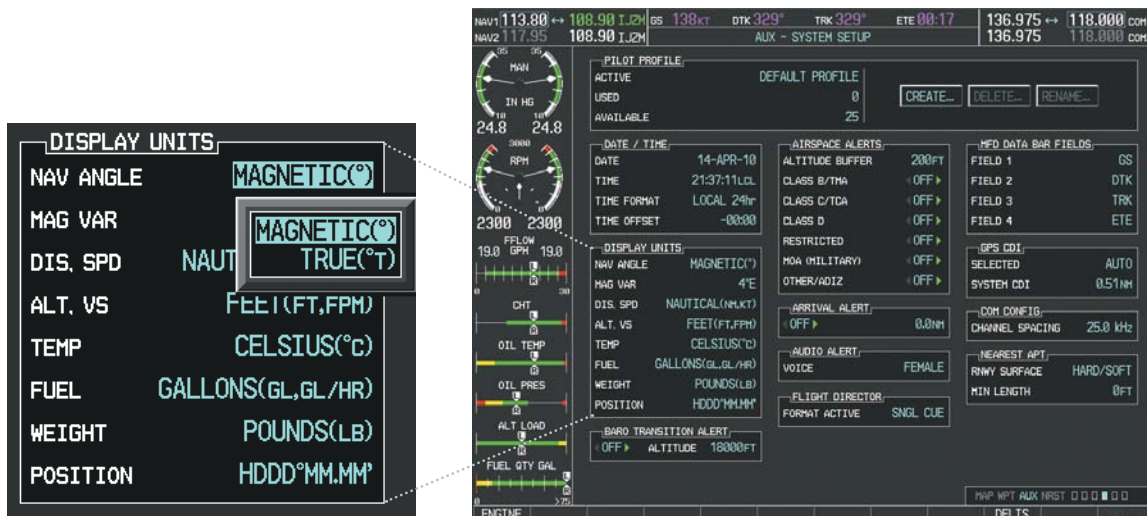

Figure 2-20 Navigation Angle Settings (AUX-System Setup Page)
- 3) Turn the large **FMS** Knob to highlight 'Nav Angle' in the 'Display Units' box (Figure 2-20).